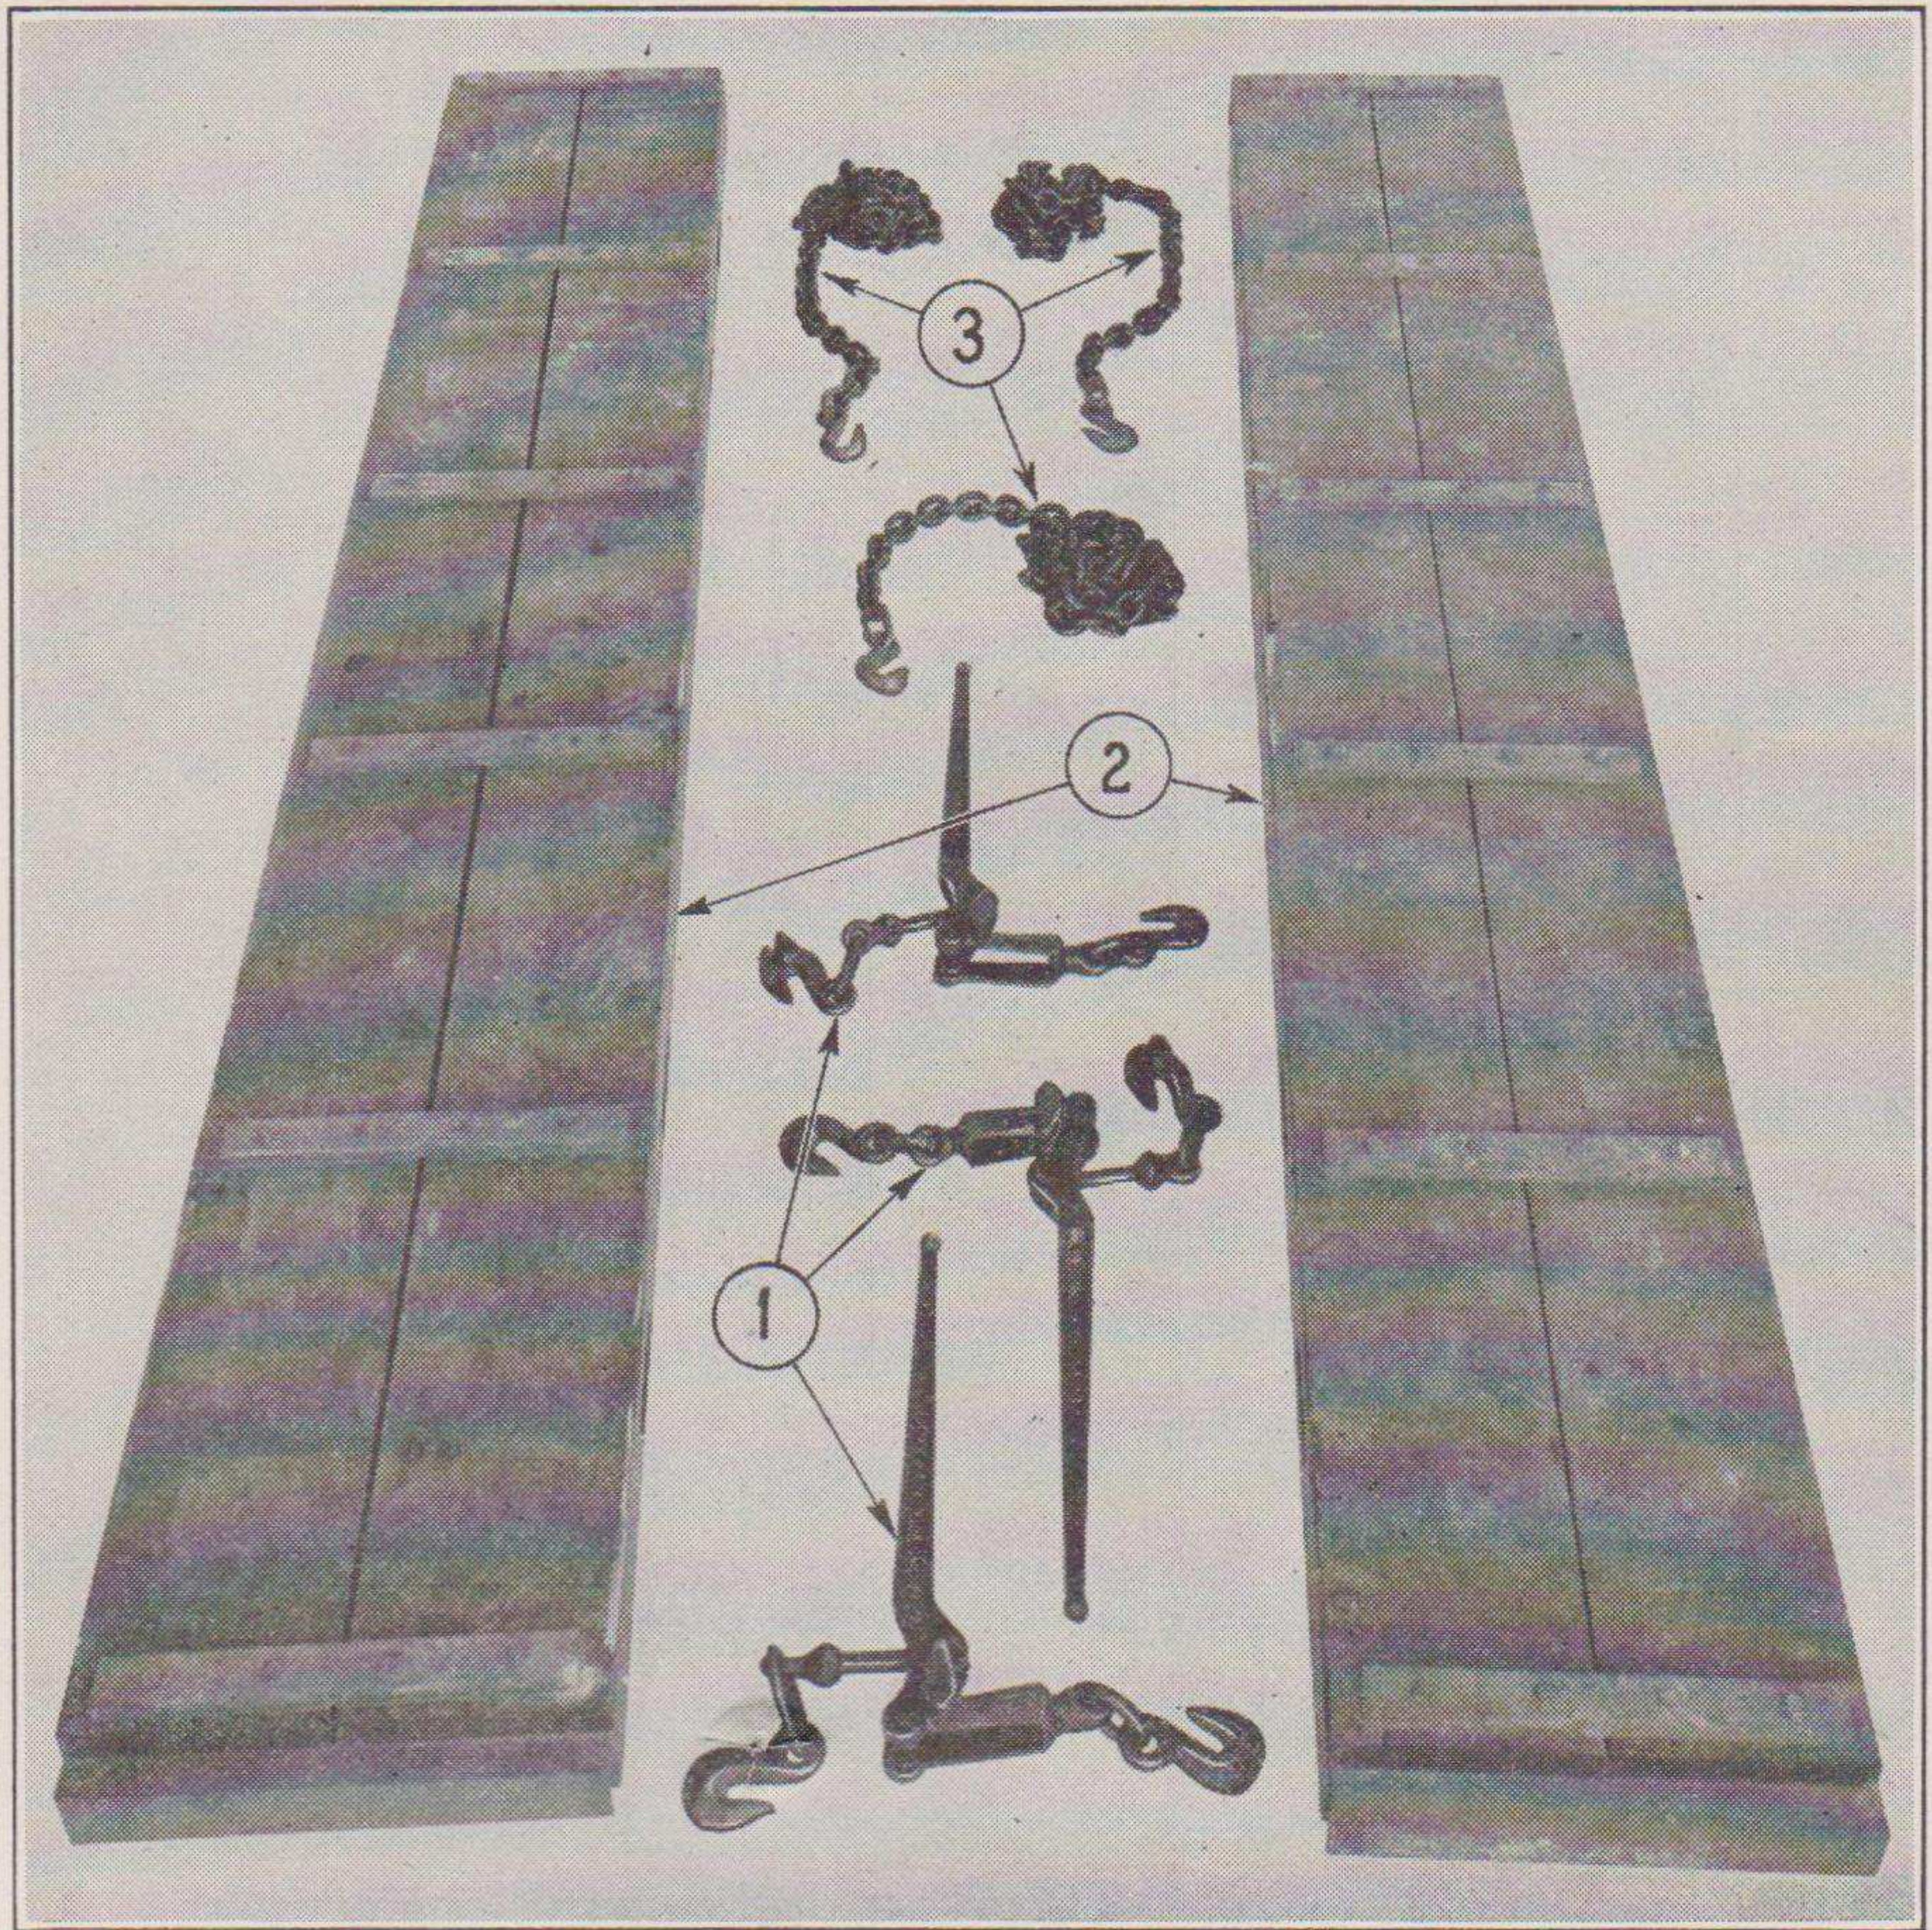

Figure 6. Equipment
3. EQUIPMENT.—The equipment issued with this vehicle is illustrated in Figure 6 and contains the items listed below: